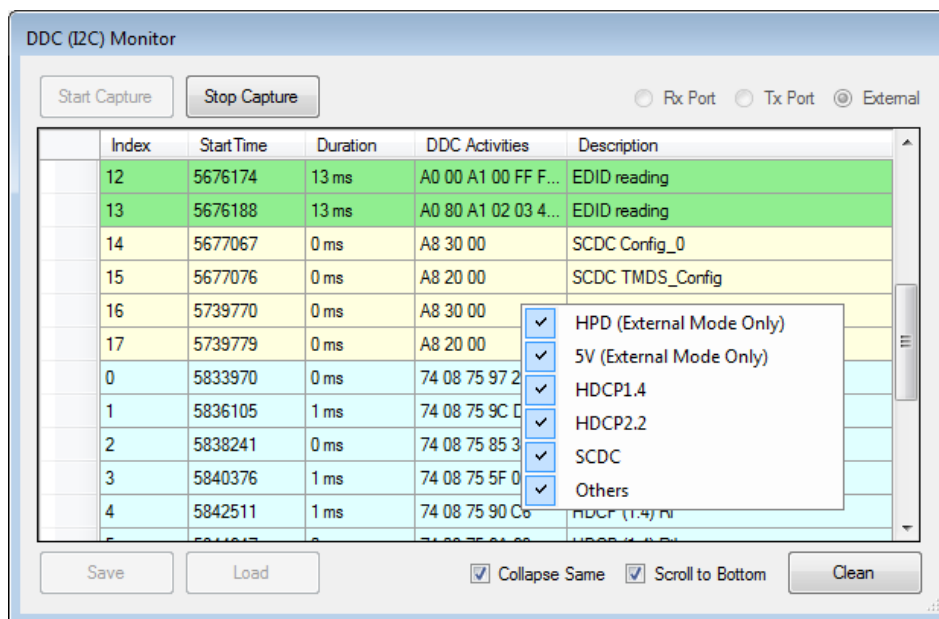

Figure 4.22. DDC Log Filter
- Check or uncheck the filter items (Figure 4.22) to show different DDC log accordingly.